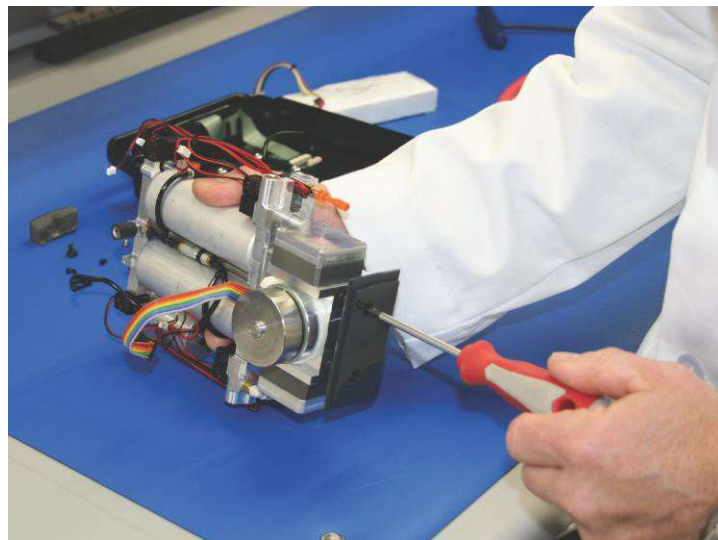

Figure 5.14
- Remove the compressor plate by removing the two screws. (See Figure 5.14.)